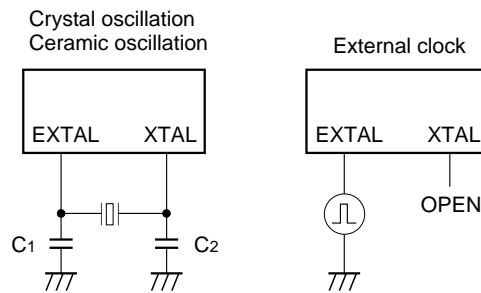

Fig. 2. Clock applied conditions
**Note)** When accurately adjusting the frequency, conditions may differ from those of Fig. 2.